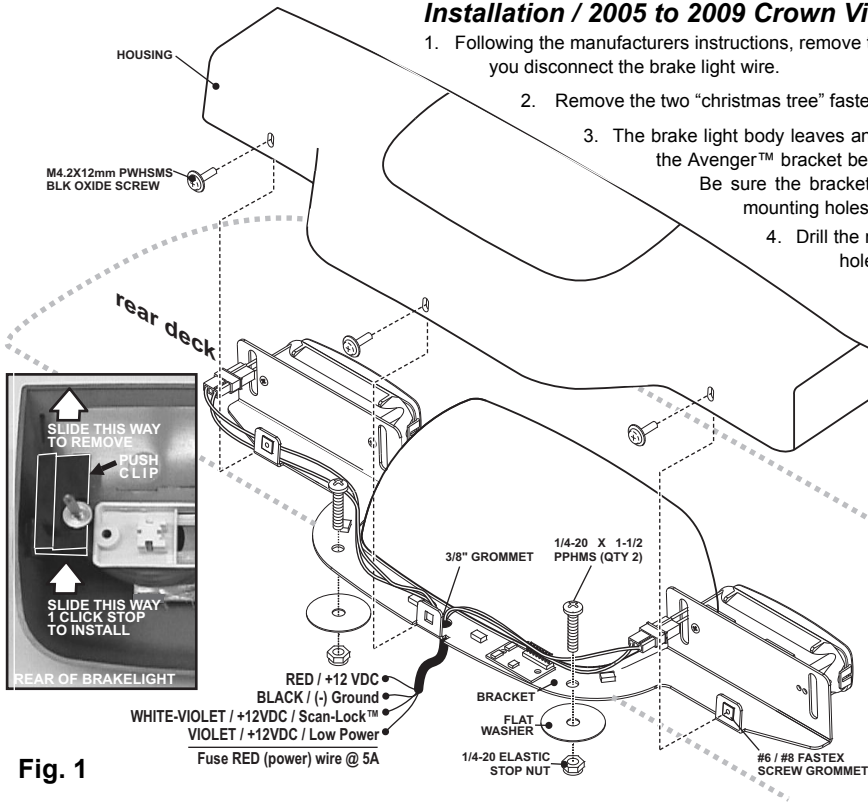

Fig. 1
- Slide the 2 push clips off of the center brake light then slide them back on until they click once (fig. 1). Reconnect and reinstall the rear brake light.